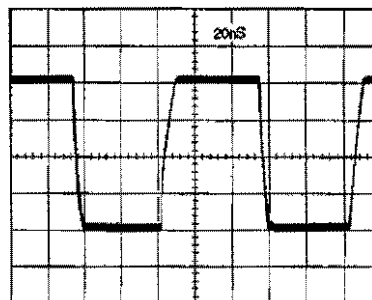

Figure 10-21. ALC Loop Adjustment Square Wave
- Step 2.** Adjust the oscilloscope vertical and horizontal controls to display a square wave similar to that shown in Figure 10-21.
- Step 2.** Adjust the vertical and horizontal oscilloscope controls to display a squarewave similar to that shown in Figure 10-21.